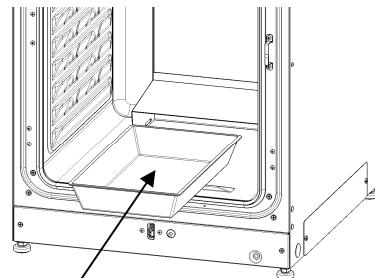

Fig. 2
3. Pull out the humidifying pan (Fig. 2).